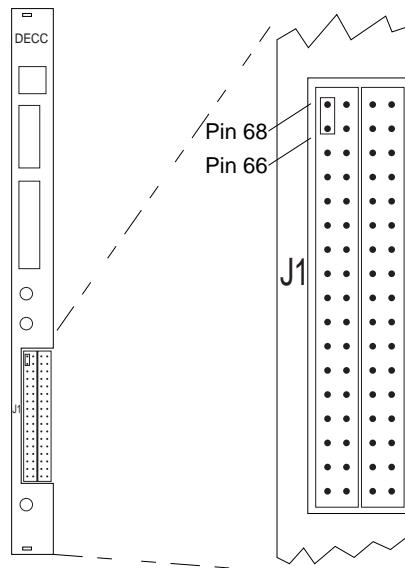

Figure 6. Self-Test Jumper on DECC Board
2. Connect a jumper between pins 68 and 66 on the 68-pin condo connector on the DECC board, as shown in Figure 6.
- Remove the self-test jumper that you connected in step 2 above. See Figure 6.